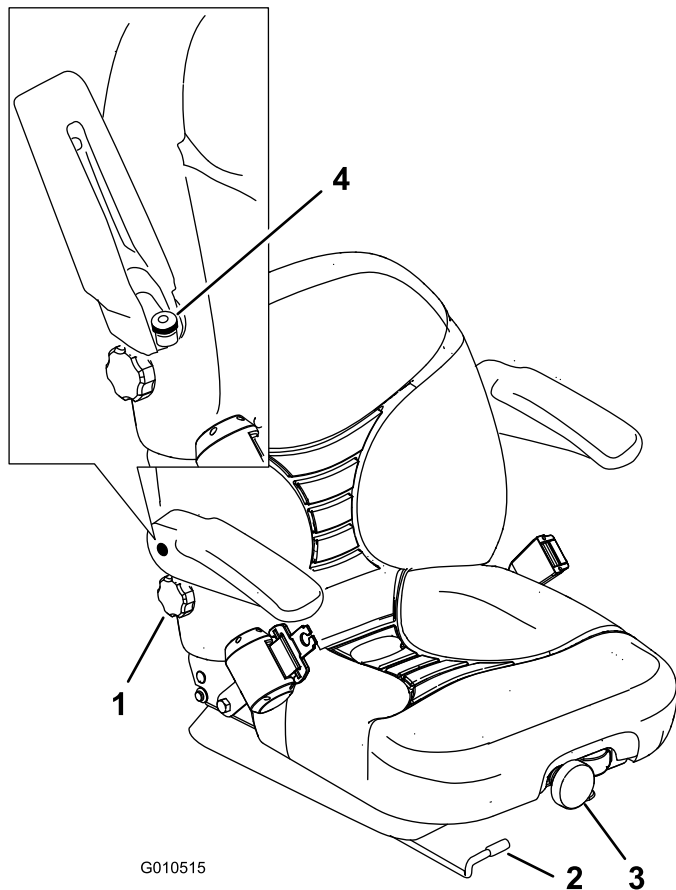

Figure 30
1. To adjust, move the lever sideways to unlock seat (Figure 30).
To adjust it, turn the knob in front either direction to provide the best comfort (Figure 30).
To adjust it, turn the knob, under the right-side arm rest, in either direction to provide the best comfort (Figure 30).
To adjust, raise the arm rest and turn the knob, in either direction, to provide the best comfort (Figure 30).